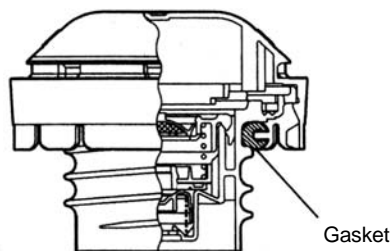

Figure 108
3. Check the fill fuel port cap and gasket for distortion or damage. See (Figure 108)